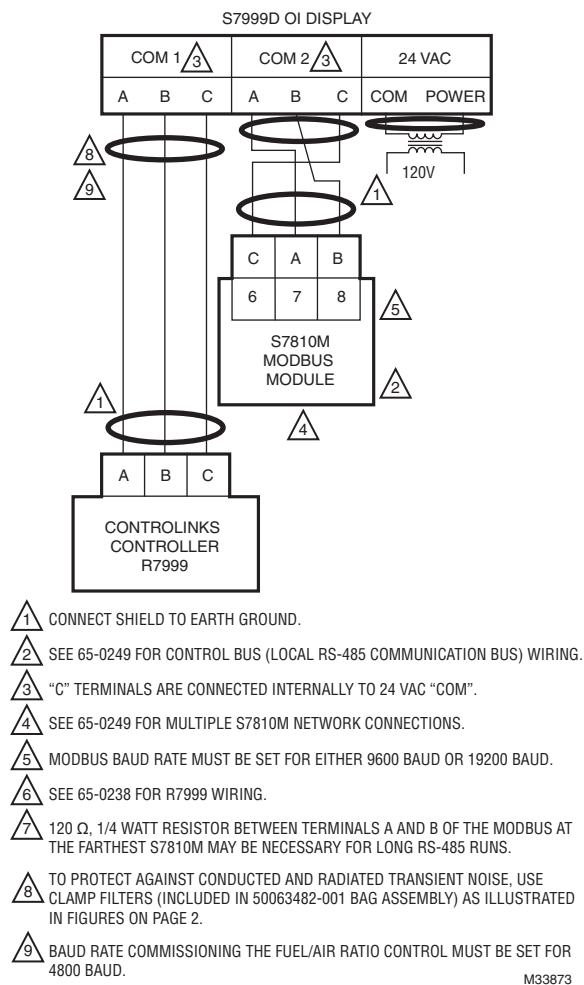
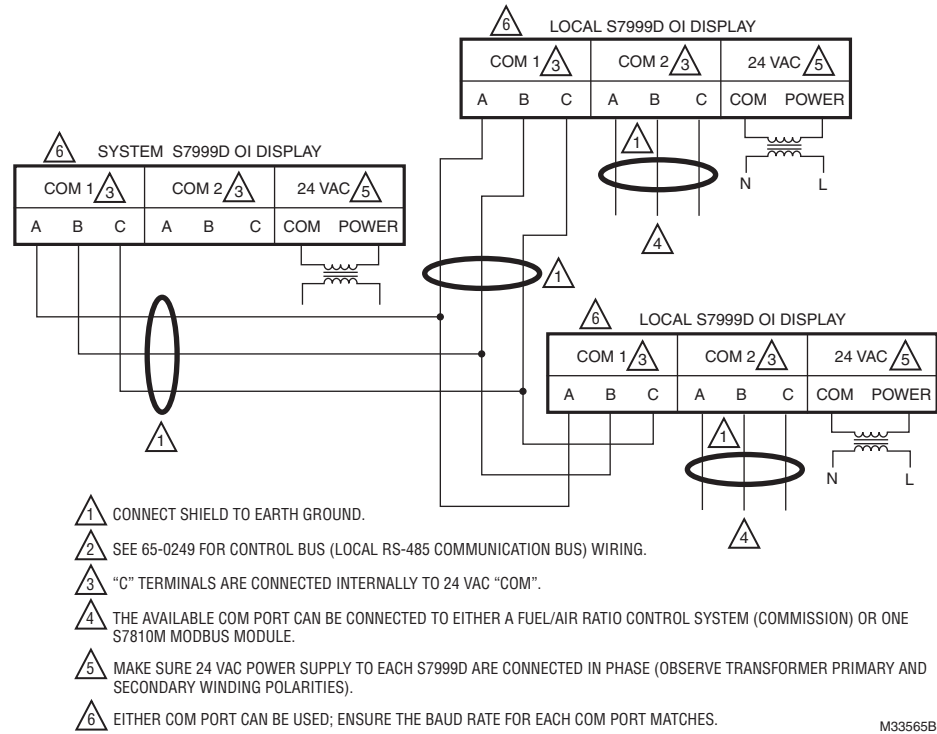

Fig. 3. Wiring diagram for commissioning the Fuel/Air Ratio Control example.
Fig. 9. System Modbus™ network wiring.
7. Wire the 24 Vac power supply and the RS-485 cables using the configuration and wiring diagrams in Fig. 3 to Fig. 9.
Use the following ControlLinks™ instructions to install the system hardware: See Fig. 3 for wiring block diagram.
The Modbus™ network on the COM port setup for One or more boiler systems (ensure the port baud rate matches the ModBus baud rate and the port Modbus addressing range covers the range of addresses of the Modbus devices on the network) consists of wiring the S7810M devices together as slaves to the S7999D. An S7810M device is required for each burner/boiler system. Up to 99 burner/boiler systems can be connected in this configuration (unless other slave devices are included in the Modbus™ wiring). Fig. 3 depicts this wiring.